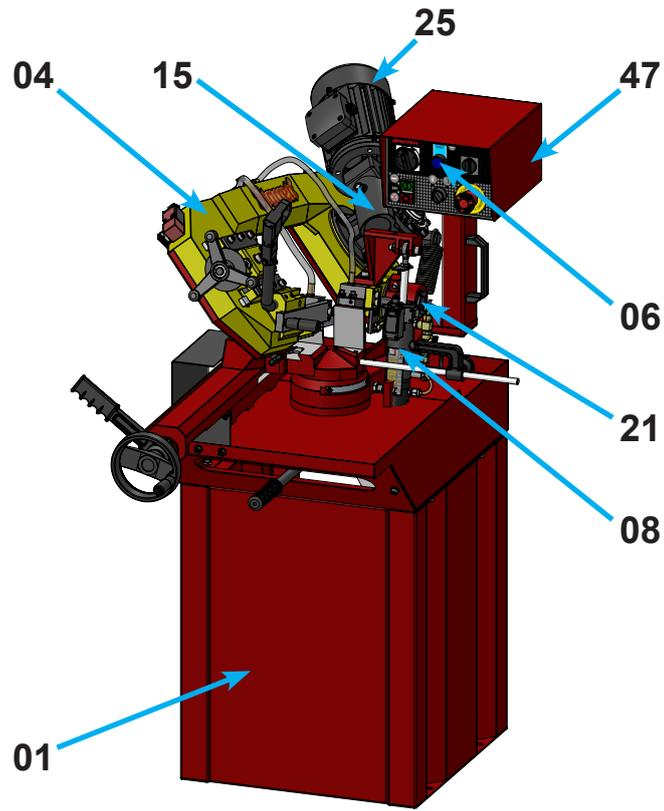

FIGURE 6.1 - GENERAL VIEW
It consists of a rigid Bow (04) that has 2 Flywheels: one Idle (13) and the other Drive (14). The Drive Flywheel (14) is coupled with a Reducer (15) of the WORM type (figure 6.1).
The Vise Set (17) is responsible for rigidly securing the material to be cut onto the Cutting Table (07). This set has a longitudinal movement in the direction of clamping the material, which is manually controlled by the Crank (19). The tightening or loosening of the vise on the material is also manually controlled by the Quick Tightening Lever (20) (figures 6.1 and 6.2).
Due to the machine's design, the Bow (04) can rotate around a fixed point on the Vise Set (17), called the Bow Shaft (21) (figure 6.1). In other words, it rotates around an axis perpendicular to the Cutting Table (07), allowing angled cuts to be made on the material.